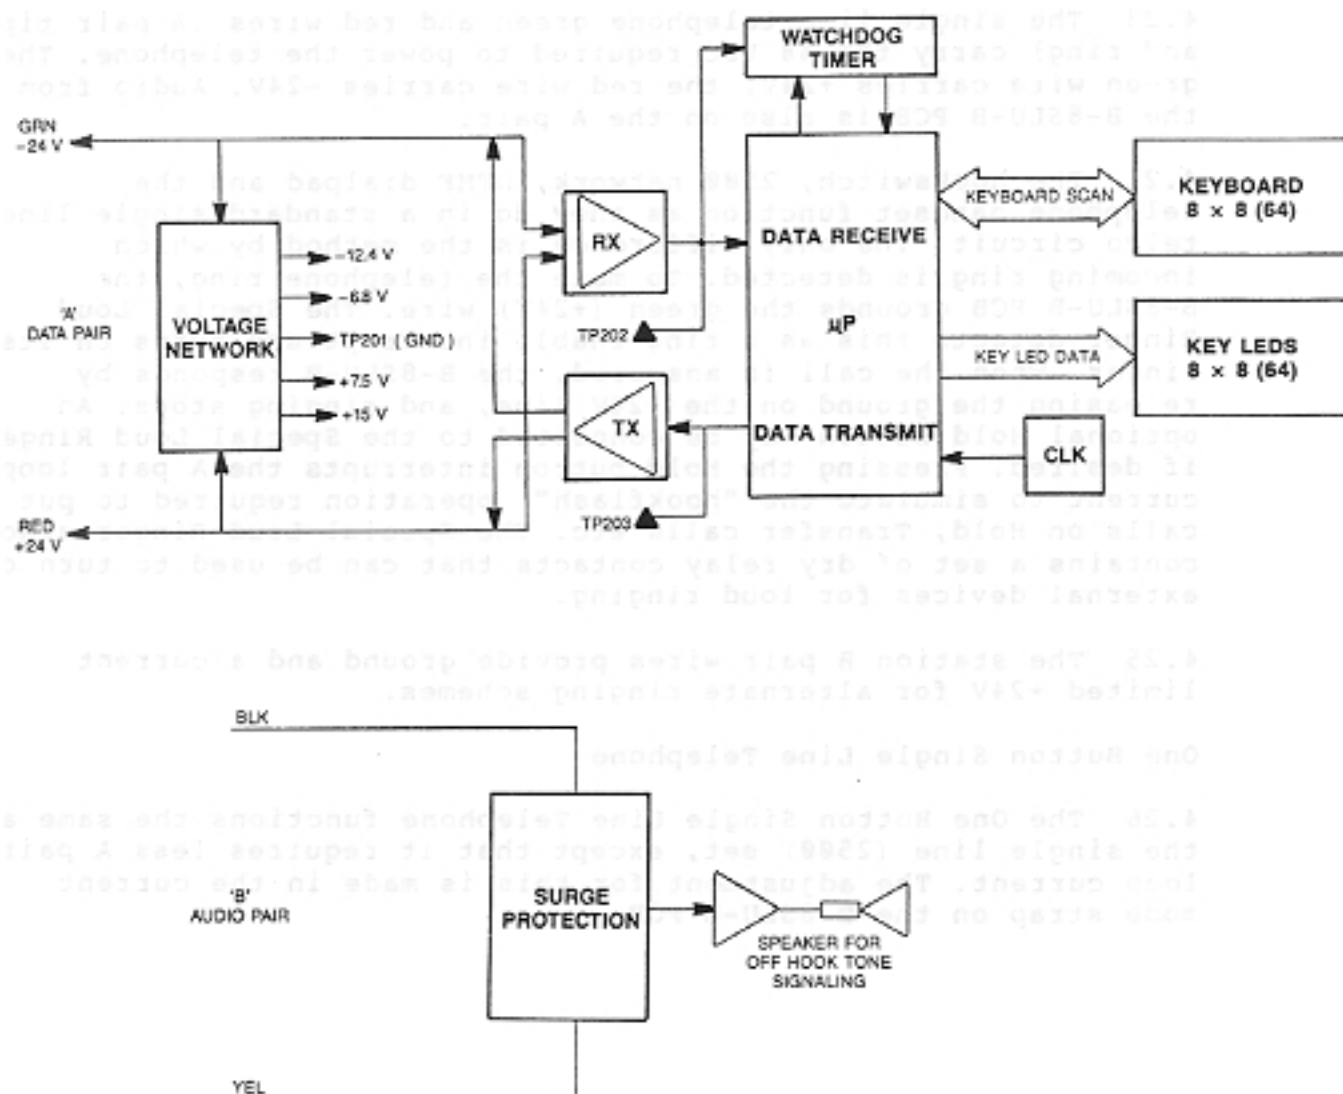

Figure 8-17 DIRECT STATION SELECTION ( DSS ) CONSOLE BLOCK DIAGRAM, TCX-128
4.16 The Direct Station Selection (DSS) Console (Figure 8-17) is comprised of a 64 button keyboard, with each key containing an LED. The microprocessor in the DSS, communicating with the 6504 station processor in the B-8SCU-C PCB, functions like the microprocessor in the multibutton telephone to scan the keys and light the LEDs. The DSS Console also contains a speaker for off hook signaling.